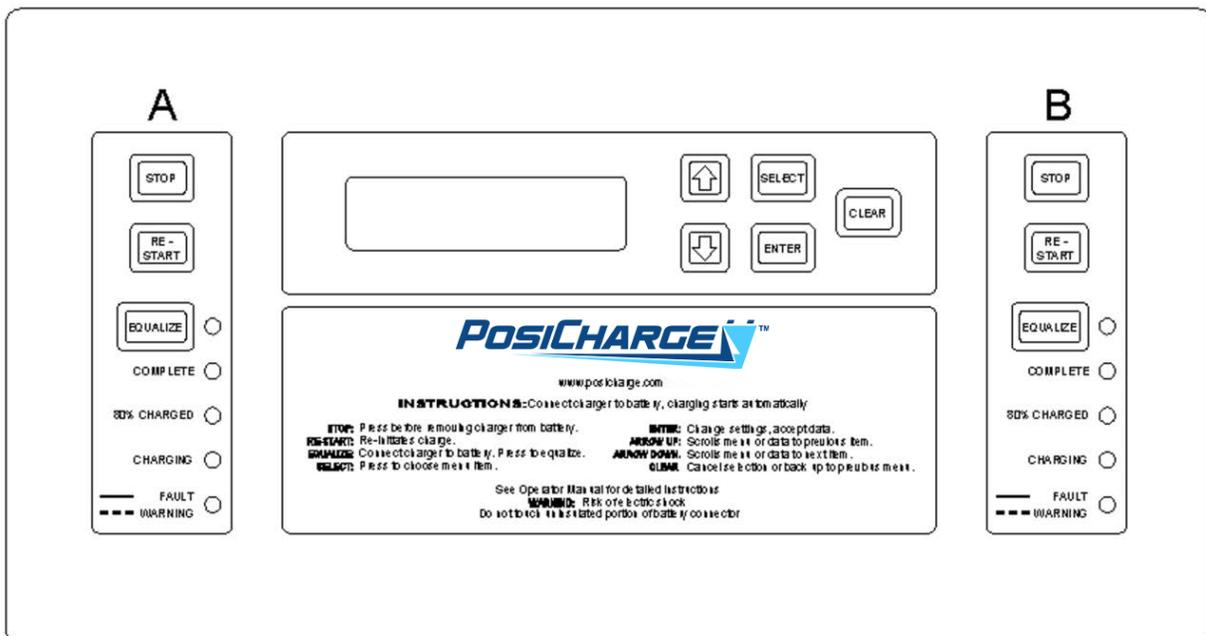
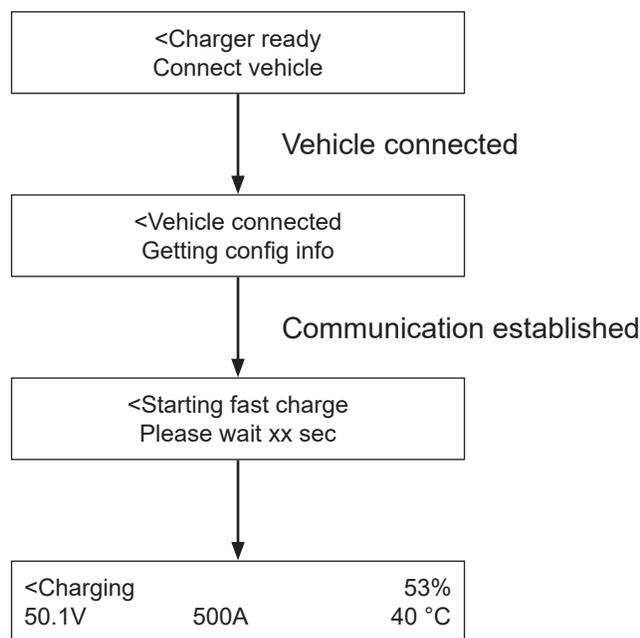

Figure 3 – Front Panel Layout
Figure 7 – Connecting status Windows
The keypad and display on the front of the DVS (Figure 3) provide the user interface to the charger (power station). The alphanumeric display panel constantly updates the charger (power station) and battery status, and allows access into the programming menus through the keypad. Four status light-emitting diodes (LEDs) allow the user to determine, from a distance, when the charge is in progress; at 80% complete, fully charged, or in equalization. A Fault/Warning LED serves to alert the user to fault conditions.
- The power station installed and wired nearest to the power server must be configured as the main station of the system and all other power stations as support stations. This configuration is accomplished through the use of the front-panel configuration menus (Figure 3).
- B) Enter the key code down-arrow+Enter on the front panel (Figure 3) to display the Charger Configuration Menu.
Simply connect the battery to either charge port of the charger (power station) to start charging. The charger (power station) establishes communication with the BMID, calculates the current SOC, identifies the correct charging profile, and starts charging. The charger (power station), at each step, displays the corresponding status window (Figure 7).
The window examples (in Figure 7) have a left-facing arrow at the left of line 1. This arrow indicates that the display applies to charge port A. A right-facing arrow at the right of line 1 indicates that the display applies to charge port B. The display window periodically will update the charging data as the charge progresses. The front panel (Figure 3), in addition, has several status LEDs that indicate the current status of the vehicle under charge and whether it is scheduled for an equalization (Table 1).